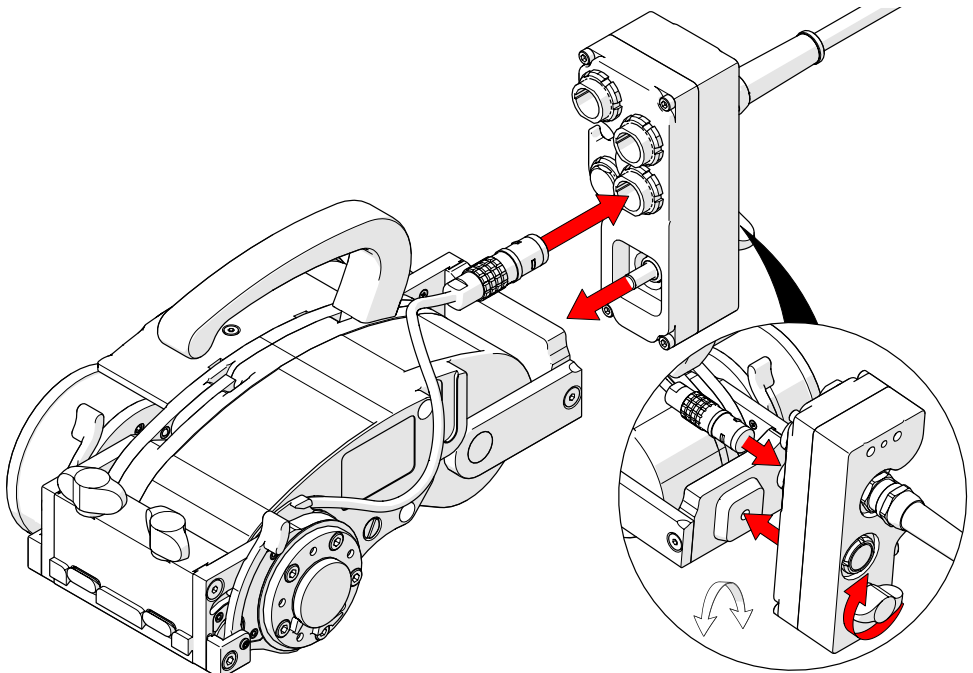

Fig. 208 - Mount the umbilical at 90° from standard mounting angle
2. Mount the umbilical at a 90° angle to the right drive module (see *"Umbilical"* on page 61), tighten the black wing knob (Fig. 208).
3. Plug in the right drive module's connector to the umbilical (Fig. 208).